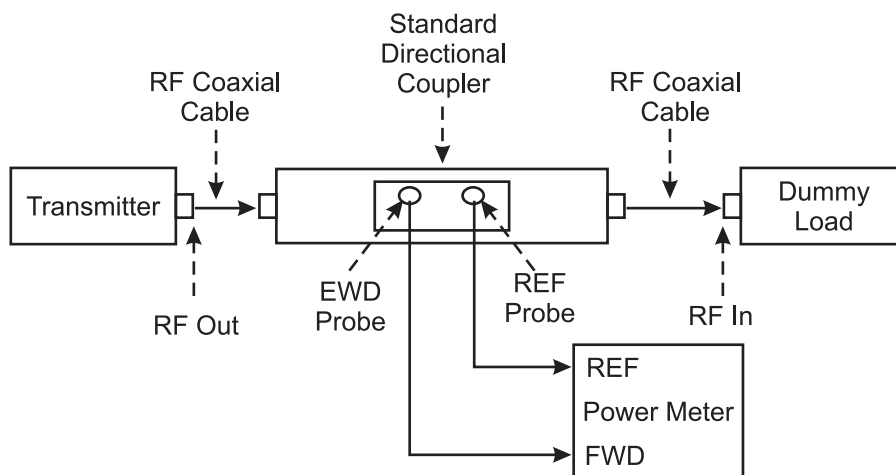

Figure 29.2: Test set up for measurement of forward and reflected power
- Make connections as shown in Figure 29.2.
Figure 29.2 shows the schematic of Test set up for measurement of forward and reflected power of a transmitter. As may be seen from the figure, the RF output of the transmitter is connected to the input of a dummy load via a standard directional coupler and small RF cables. Forward and reflected output ports of a standard coupler are connected to the forward and reflected Input ports of RF power meter through two probes.